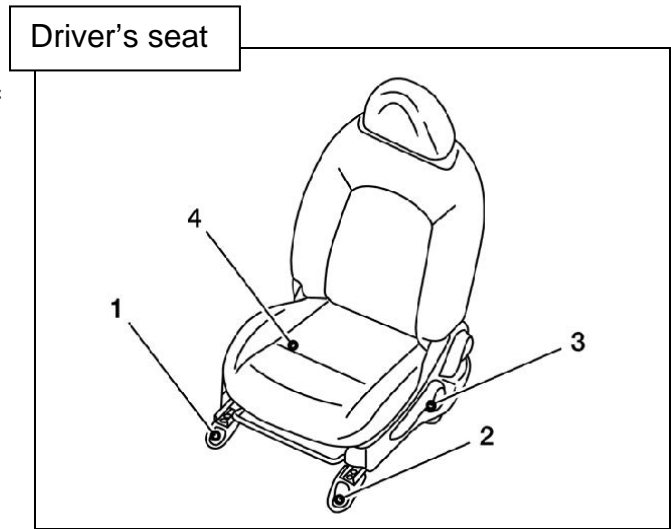

Figure 69
- Refer to Figures 69 and 70 for torque sequence.